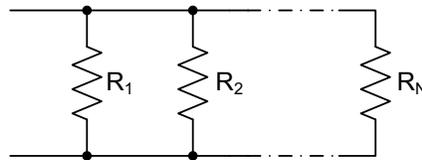

Figure 1.5. Parallel connection of resistors
**Theory:** When resistors are connected in parallel as shown in Figure 1.5, the equivalent resistance is given as: